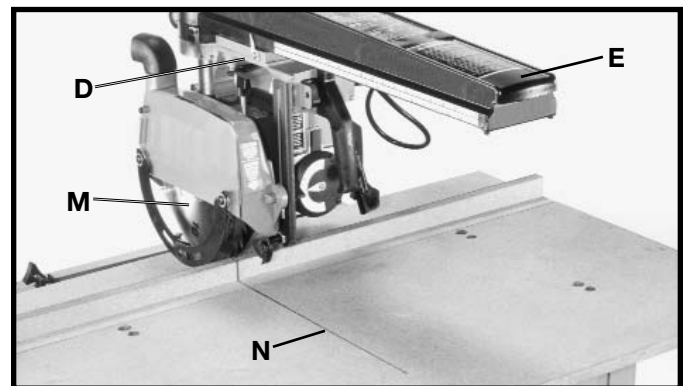

Fig. 51
5. Once saw blade (M) Fig. 51, has come to a complete stop, return cutting-head (D) to rear of track arm (E) as shown. Fig. 51, illustrates saw kerf (N) cut into table boards.
IMPORTANT: THE TRACK ARM (E) FIG. 51, MUST BE RAISED BEFORE ATTEMPTING TO ROTATE IT. ALSO, THE PROCEDURE “CUTTING INTO TABLE BOARDS” MUST BE PERFORMED FOR EACH ANGLE CUT DESIRED.